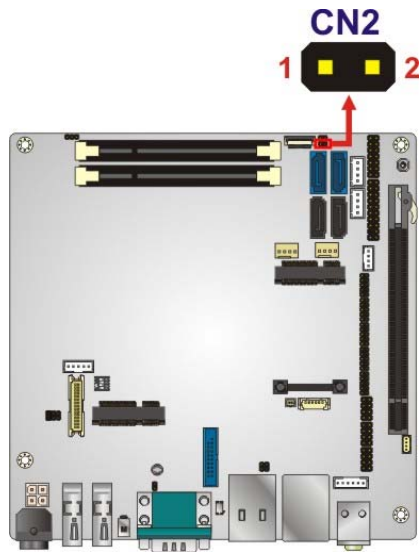

Figure 3-29: EC SPI Flash Connector Location
3.2.28 SPI Flash Connector (EC)
- CN Location:** See **Figure 3-29**